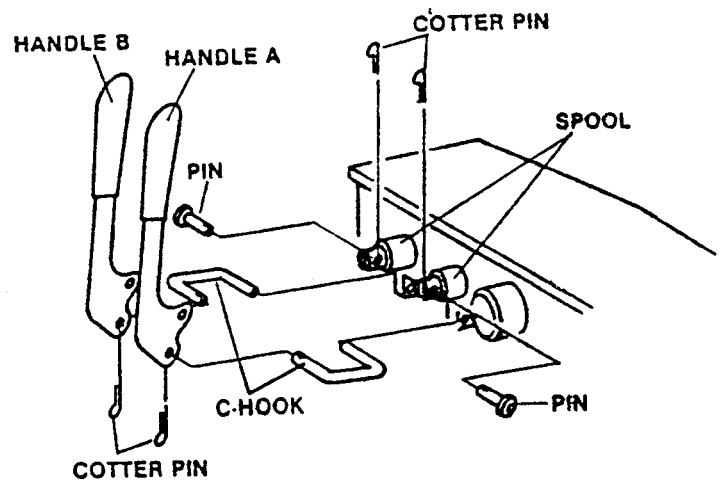

FIG. 3
8. Attach the valve handles. First, attach handle A to the spool used for loader operation. Attach handle B to the spool used for bucket operation as shown in Figure 3.